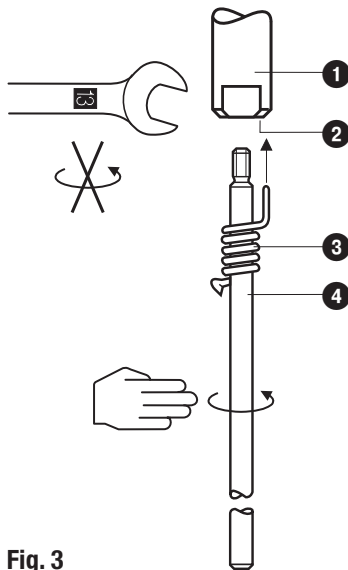

Fig. 3
1. Screw electrode tip ④ into measuring electrode ①. **Fig. 3**
3. Mark length of electrode tip ④.
4. Unscrew electrode tip ④ from measuring electrode ① and cut tip.
5. After visual inspection screw electrode tip ④ into measuring electrode ①. Slide spring ③ along electrode tip ④ so that its end completely enters the small hole ②.